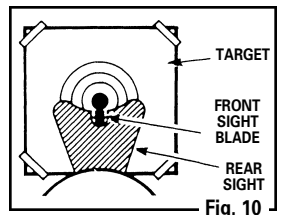

Fig. 10
- The air rifle is correctly aimed when the front sight blade is positioned exactly in the center of the notch of the rear sight. The top of the front sight blade should be even with the top of the notch in the rear sight. The bullseye should appear to rest on the top of the front sight (Fig. 10).